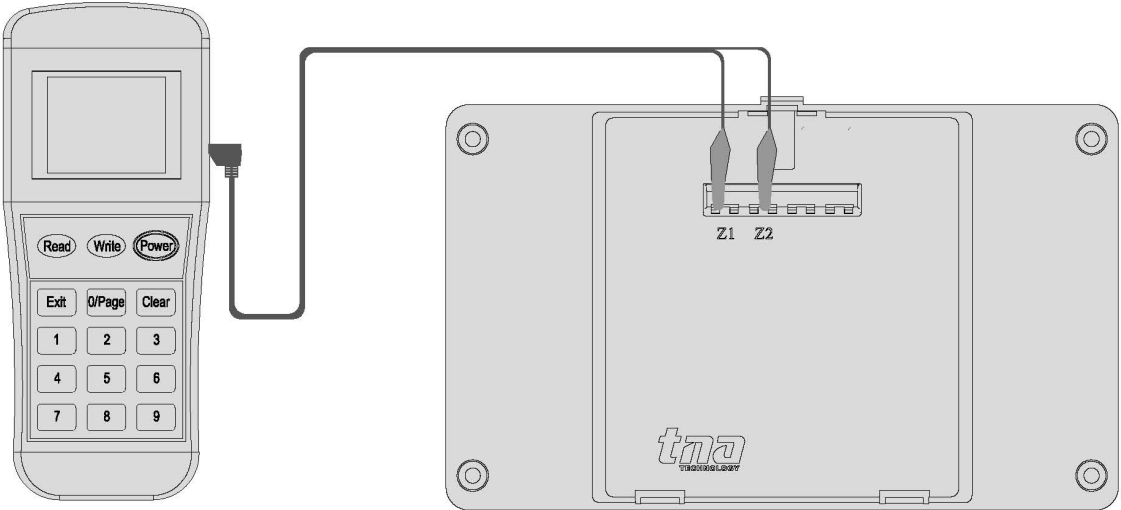

Figure 4: Programmer Connection Detail
1. Connect the programming cable to Z1 and Z2 terminals (Figure 4). Press **“Power”** to switch on the unit.